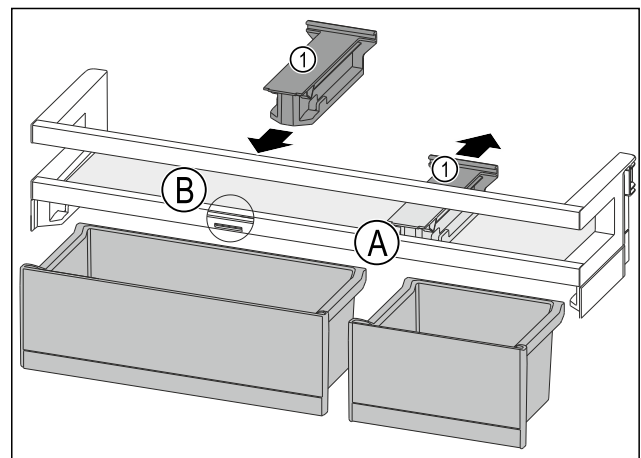

Fig. 81
- ▶ Pull off the retaining part Fig. 81 (1) in position Fig. 81 (A) downward.
- ▶ Insert the retaining part Fig. 81 (1) in position Fig. 81 (B).